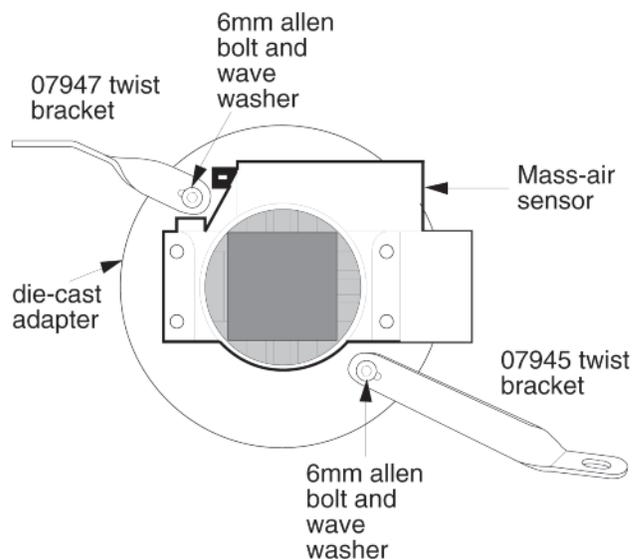

fig. 2
- 10) Install the two brackets onto the adapter with the hardware provided. Do not tighten at this time. (see fig. 2)